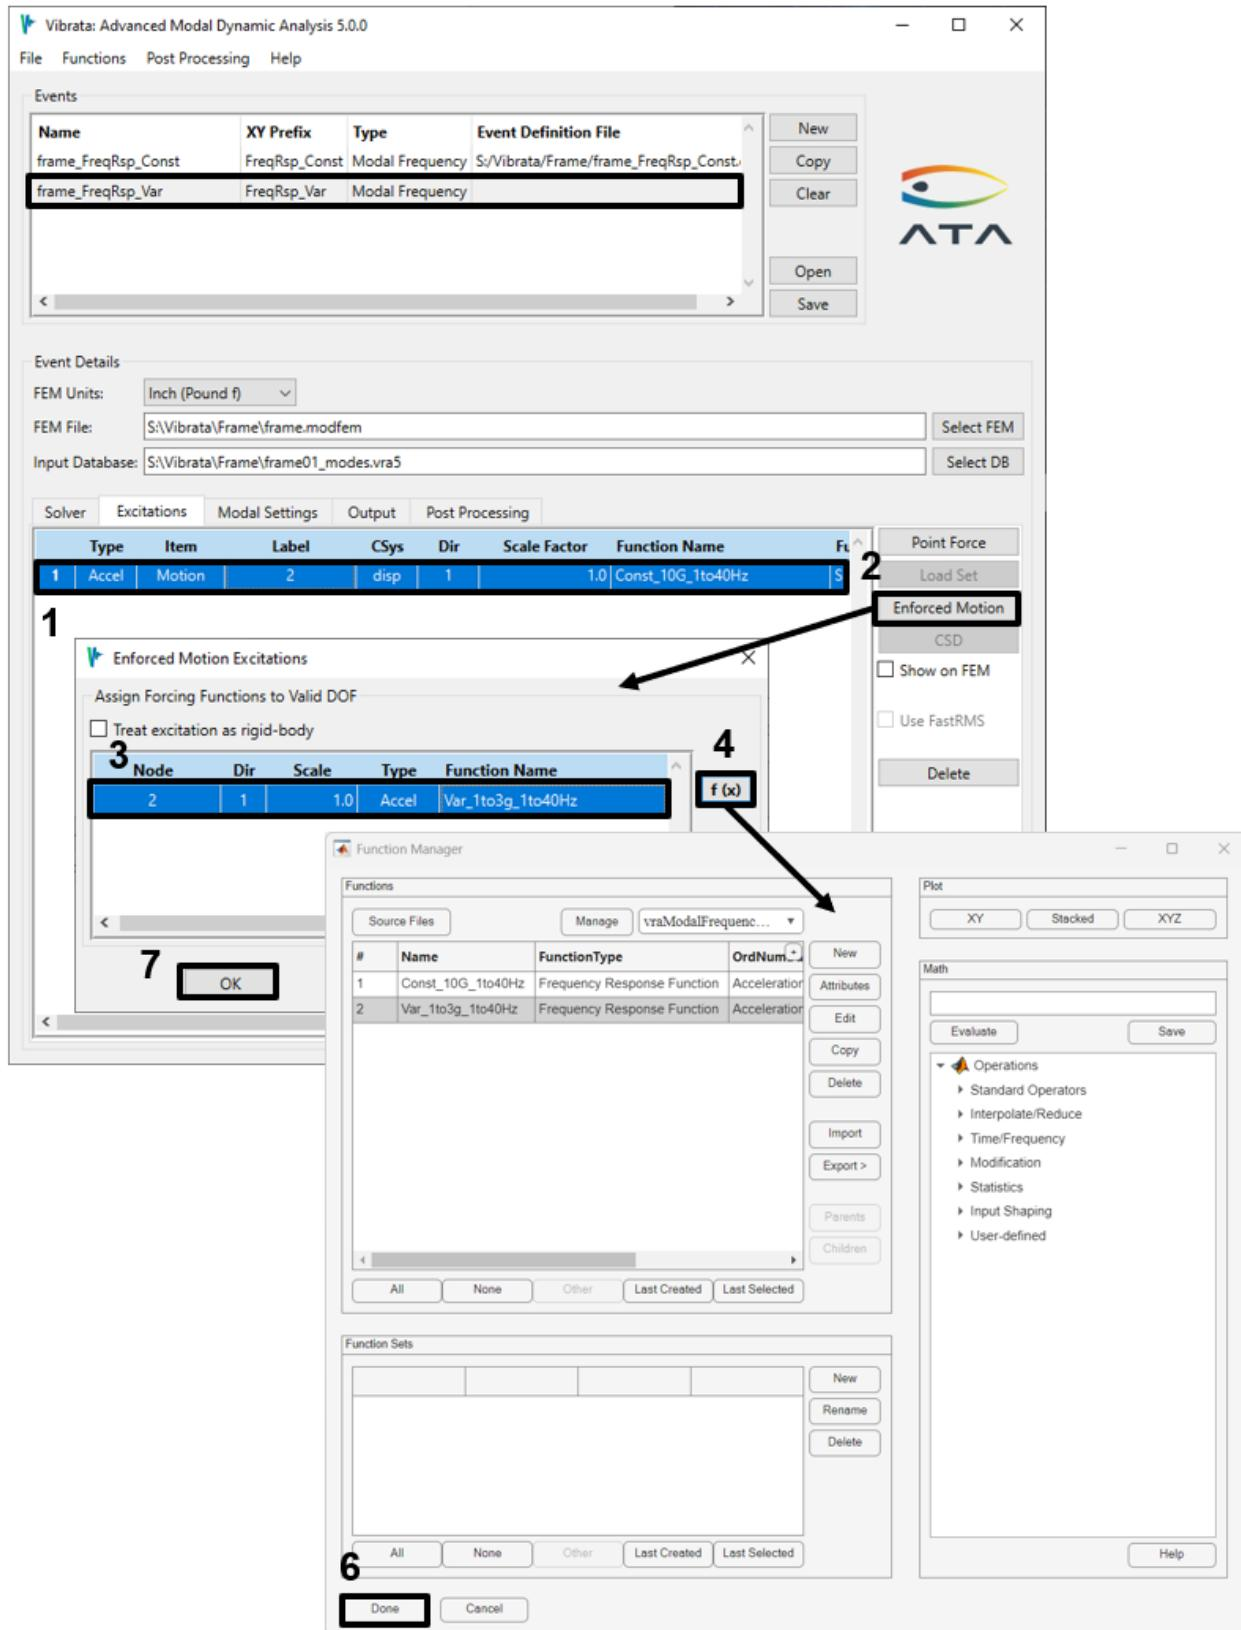

Figure 4-35. For the new (copied) event, delete the old excitation and create a new one.
- With the new event selected, go to the *Excitations* tab, select the existing excitation, and edit it by clicking on **Enforced Motion**. Select the variable-amplitude forcing function (Figure 4-35).